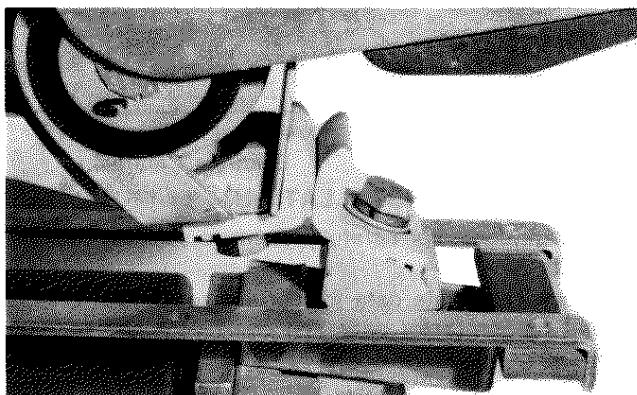

Figure 2
2. Check that the slot in the movable contact tip is engaged in the ridge located on the auxiliary arm (12) (Fig. 2). For worn contact tips refer to MAINTENANCE—Contact Tip Inspection instructions in this Service Bulletin.
3. Check that the stationary contact tip is against the stationary support seat or the blowout coil guard (3) (Fig. 2).
4. Check that the contact tip surfaces are aligned both vertically and horizontally (Fig. 2).
The contact tips should be replaced when the contact follow-up is less than 1/16" (Fig. 5). The movable contact tip can be adjusted for additional tip life by repositioning it as shown (Fig. 5). Align the contact tips to meet squarely by the procedure in the ADJUSTMENT—Contact Tip Alignment instructions in this Service Bulletin using (Fig. 5) instead of (Fig. 2) for reference. Make sure to check the adjustment of the mechanical interlock.